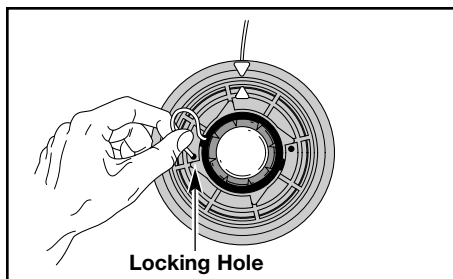

Fig. 15
3. Insert the line into the locking hole (Fig. 15) no more than 1/2 inch (12.7 mm). Do not push the line too far into the inner reel. A small loop is formed when the line is inserted correctly (Fig. 15).